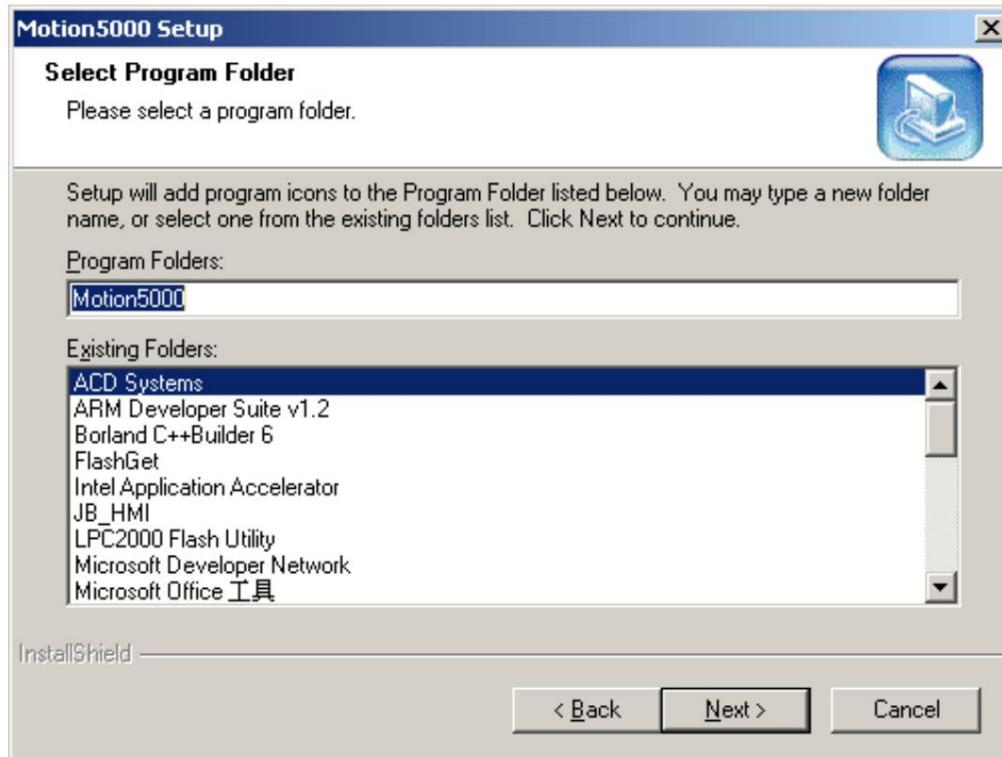

Figure 6-6 Select the installation folder
6. After filling in the name of the new installation folder, click the Next button, and then follow the prompts to continue the installation, as shown in the figure 6-6;